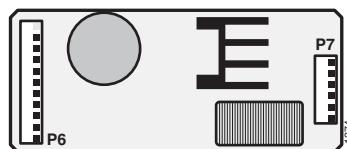

Figure 4-8 R48S Interface Connectors
- Mate the R48S connectors P6 and P7 (Figures 4-8~4-10) with the R48S connectors P6 and P7 on the RSTU or RSTU3.